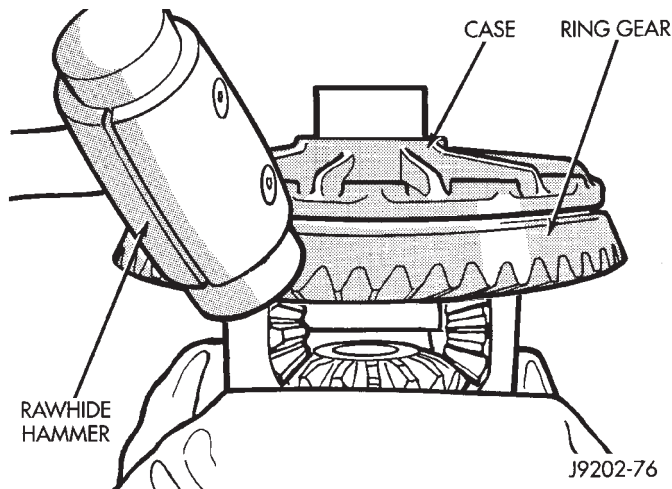

Fig. 42 Ring Gear Removal
(2) Place differential case in a suitable vise with soft metal jaw protectors. (Fig. 42)
(3) Remove bolts holding ring gear to differential case.
(4) Using a soft hammer, drive ring gear from differential case (Fig. 42).